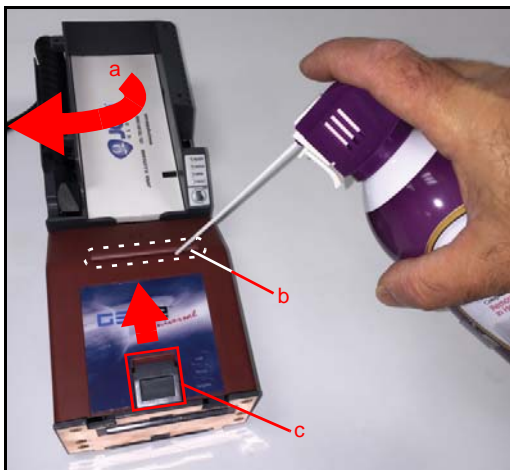

Figure 13 Cleaning the Ticket-In Slot w/ Compressed Air
2. Remove Tickets from the Printer's Paper Tray (see Figure 13 a on page 16).
5. Insert the Cleaning Card into the Ticket-In Slot (see Figure 13 b on page 16). The Cleaning Card will feed into the Slot up to the loading point.
11. Feed at least two (2) Tickets through the Printer to wipe off excess moisture on the Print Head.
2. Remove Tickets from the Printer's Paper Tray (Figure 13 a).
3. Press the Lid Release Lever toward the rear of the Printer to release the lid (Figure 13 c).
- Ticket-In Slot (Figure 13 b)
- Paper Tray (Figure 13 a)